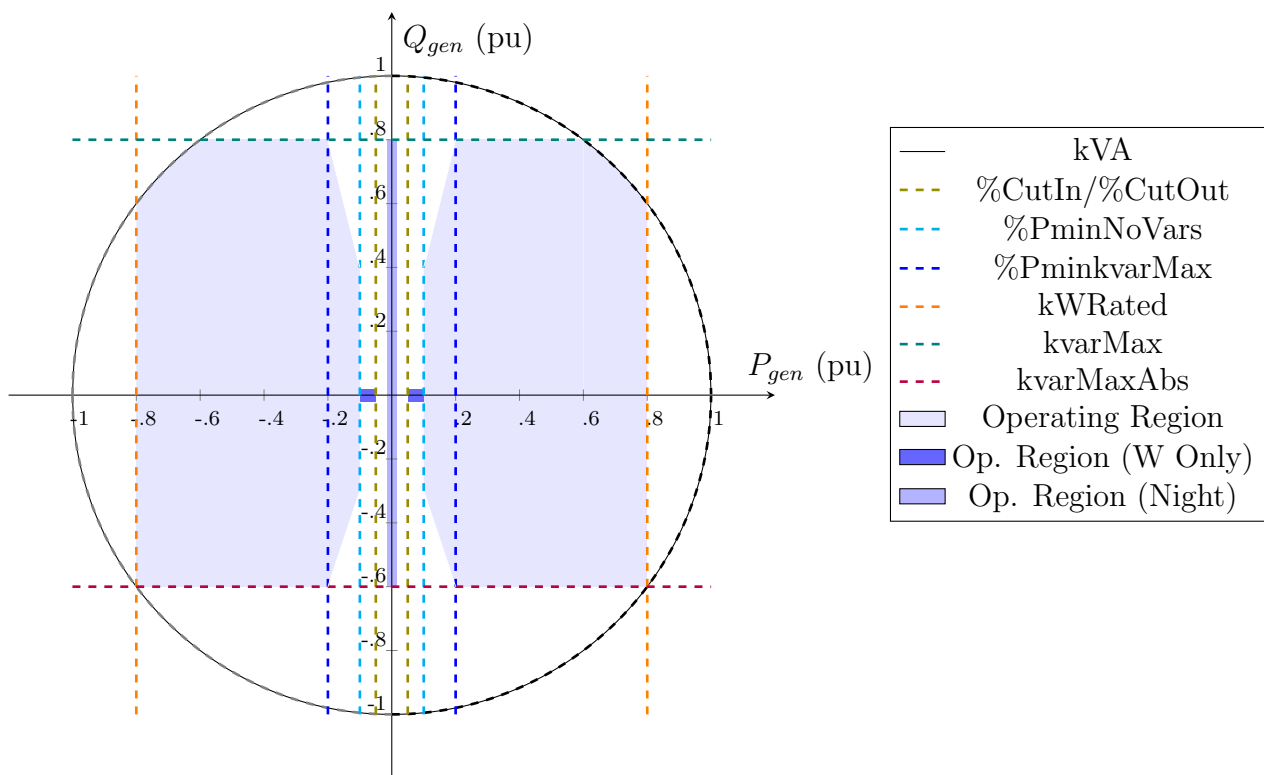

Figure 18: General Inverter Capability Curve
(8) kVA	Indicates the inverter nameplate capability (in kVA). Used as the base for Dynamics mode and Harmonics mode values. See Figure 18.
(9) %CutIn	Cut-in power as a percentage of inverter kVA rating. It is the minimum DC power necessary to turn the inverter ON when it is OFF. Must be greater than or equal to %CutOut. Defaults to 0, which means that the inverter state will be always ON for this element. See Figure 18.
(10) %CutOut	Cut-out power as a percentage of inverter kVA rating. It is the minimum DC power necessary to keep the inverter ON. Must be less than or equal to %CutIn. Defaults to 0, which means that, once ON, the inverter state will be always ON for this element. See Figure 18.
(13) kvarMax	Indicates the maximum reactive power GENERATION (un-signed numerical variable in kvar) for the inverter. Defaults to kVA rating of the inverter. See Figure 18.
(14) kvarMaxAbs	Indicates the maximum reactive power ABSORPTION (un-signed numerical variable in kvar) for the inverter. Defaults to kvarMax. See Figure 18.
(17) %PminNoVars	Minimum active power as percentage of kWrated under which there is no vars production/absorption. Defaults to 0 (disabled). See Figure 18.
(18) %PminkvarMax	Minimum active power as percentage of kWrated that allows the inverter to produce/absorb reactive power up to its maximum reactive power, which can be either kvarMax or kvarMaxAbs, depending on the current operation quadrant. Defaults to 0 (disabled). See Figure 18.
(19) kWrated	kW rating of inverter active power output. Base for Loadshapes when DispMode=Follow. Sets kVA property if it has not been specified yet. Defaults to 25. See Figure 18.